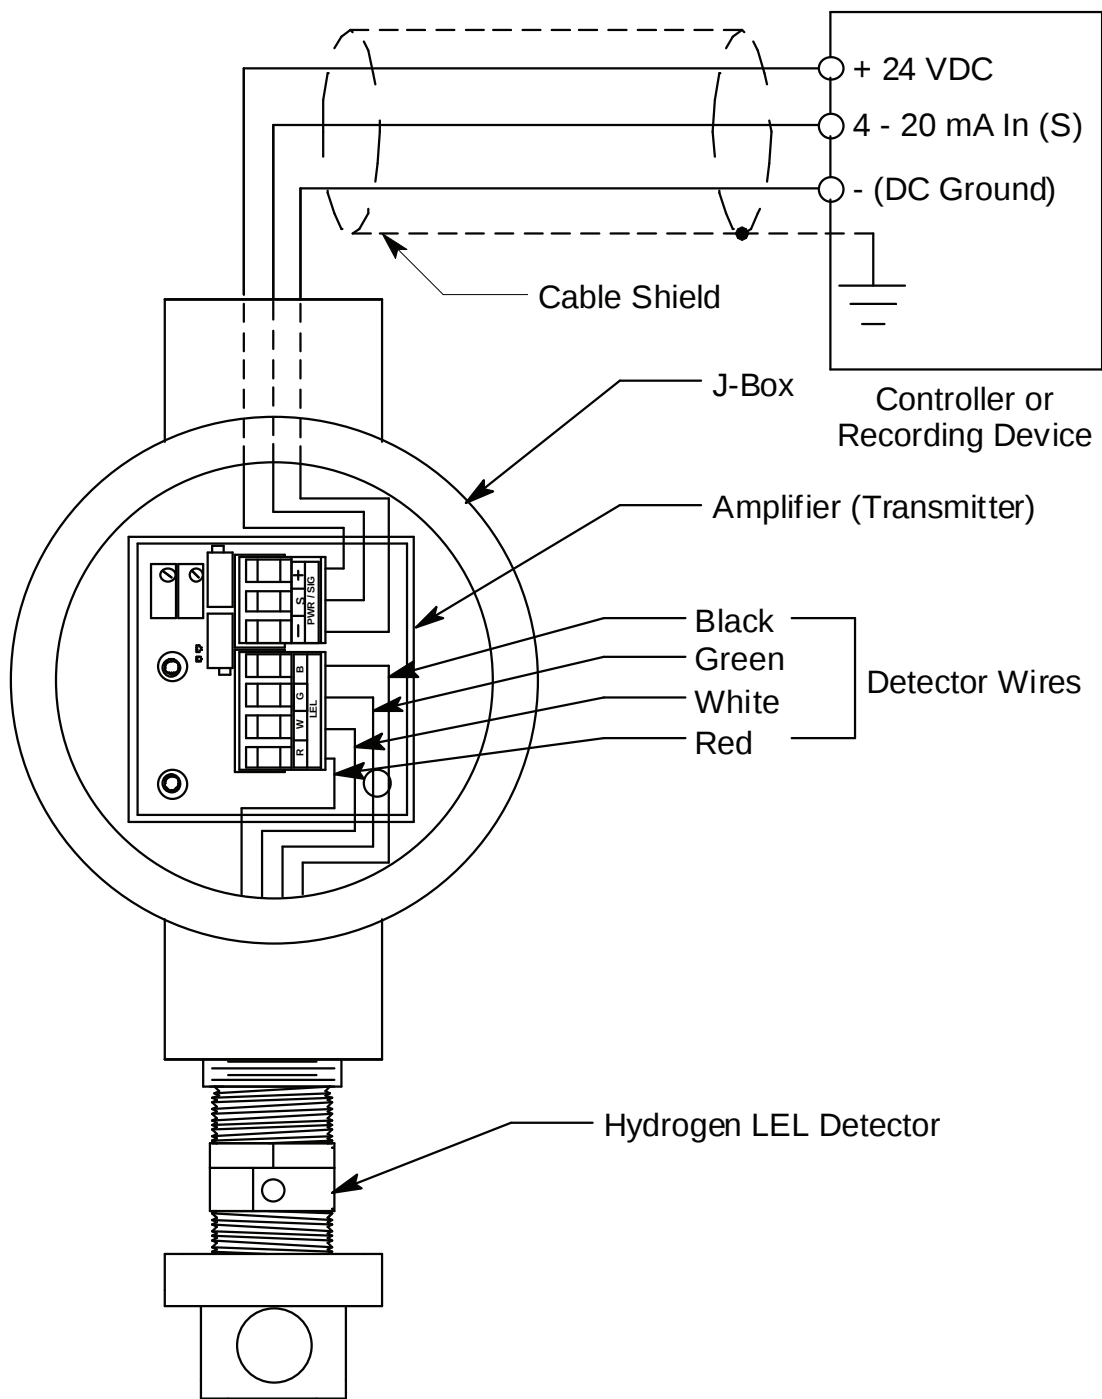

Figure 3: Wiring the Hydrogen Transmitter to a Controller
4. The detector leads are factory wired. Verify that the detector leads are wired to the amplifier's detector terminal strip as shown in Figure 3.
7. Pull out the controller terminal strip, and connect the three wires to the terminal strip as follows (see Figure 3).
11. Connect the wires to the applicable detector / transmitter terminal strip at the controller as shown in Figure 3.
8. Connect the detector leads to the detector terminal strip as shown in Table 3 below and Figure 3 on page 6 of this manual.